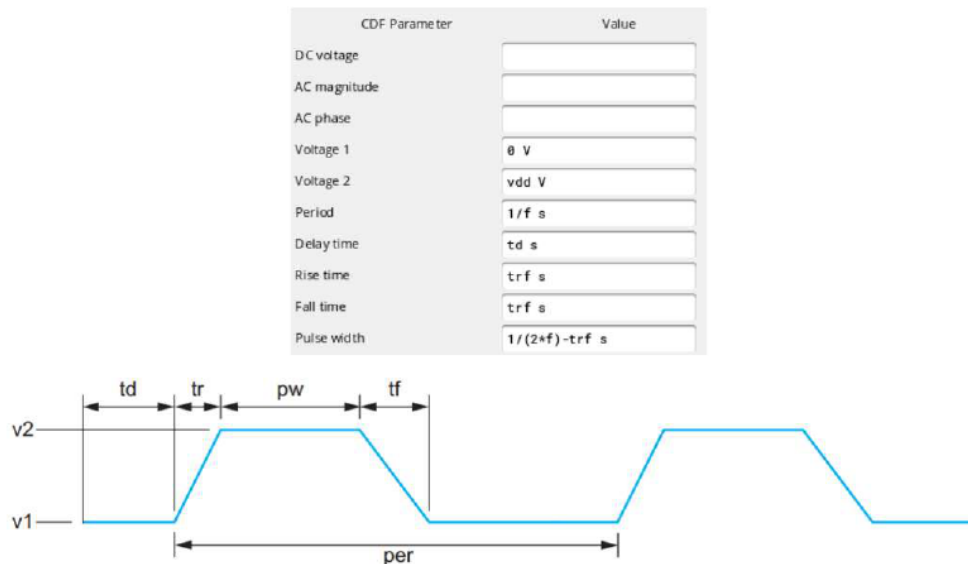

Figure 13. Testbench tran analysis of INV
- Set the variable for vpulse source parameter (voltage 1, voltage 2, period, rise time, fall time, pulse width) in **Figure 13**.
- Set the variable for *vpulse* source parameter (voltage 1, voltage 2, period, rise time, fall time, pulse width) in **Figure 13**.